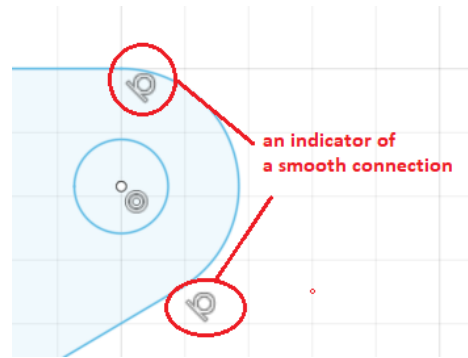

Fig. 9: Tangent feature
12. Select “Line”  and draw a closed loop. Use “tangent”  to create smooth connection between the straight and curvy line. A symbol of “tangent” is an indicator of a smooth connection as shown in the Fig. 9.